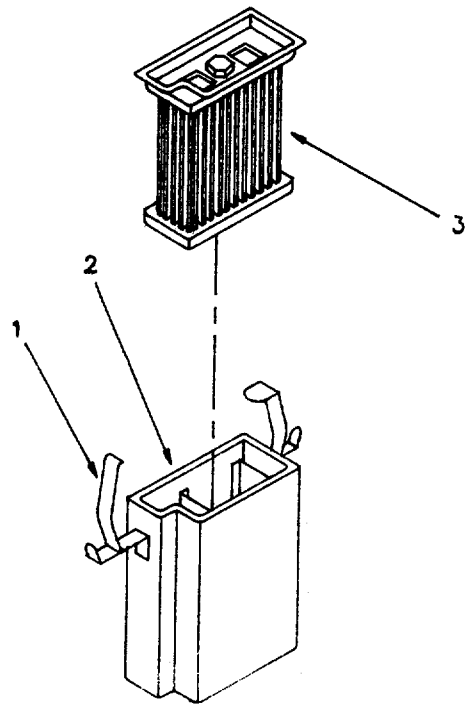

Figure 3-3. Strainer Assembly.
- (1) Release latch clips (1, Figure 3-3) on strainer body (2) from compressor intake.
- (2) Remove filter element (3) from strainer body (2).